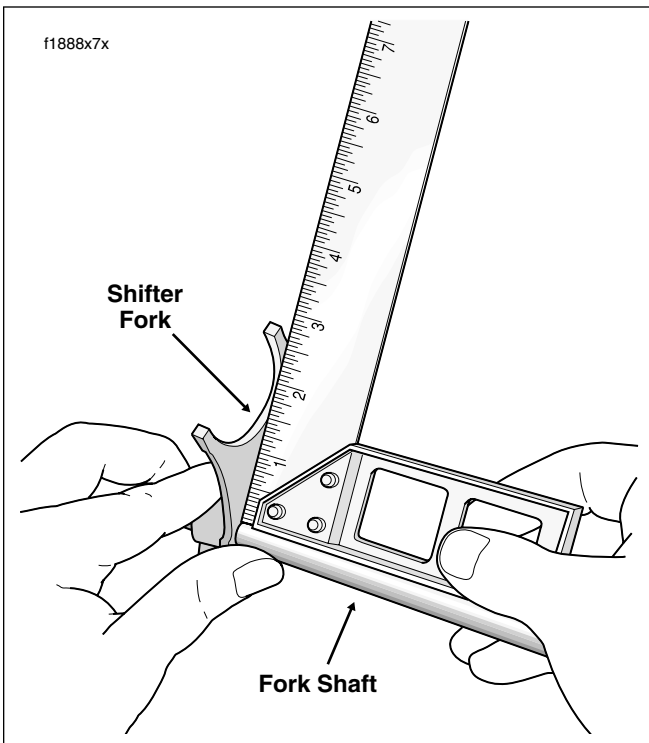

Figure 7-6. Check Shifter Forks for Squareness
5. Using a small carpenter's square, verify that the shifter fork shafts are square. If a fork does not rest directly on the square, then it is bent and must be replaced. See Figure 7-6.